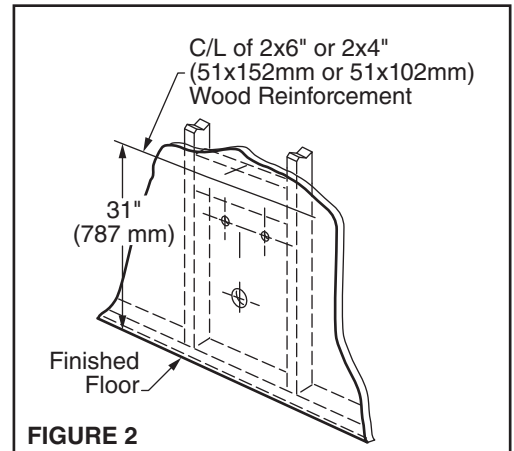

FIGURE 2
2. Prepare the wall to safely secure the furniture in place. Provide suitable reinforcement behind the finished wall. Centerline of reinforcement should be 31" (787mm) from the floor (Figure 2).